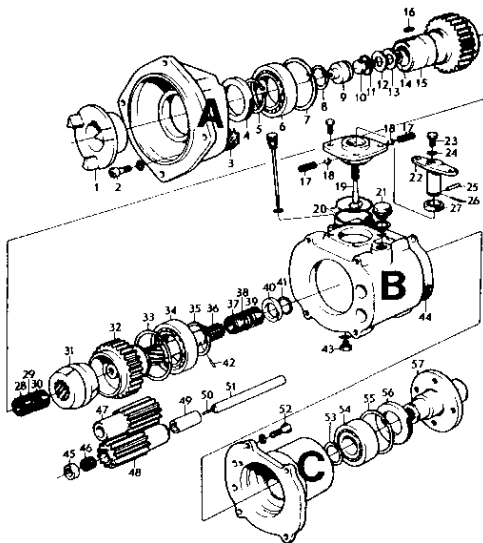

Fig. 1. Reverse gear type MS, without reduction gear
2. Drain the oil in the reverse gear by unscrewing the oil drain plug (see 43, Fig. 1). Unscrew the oil dipstick and the oil filler plug. NOTE! The earlier reverse gears have a copper gasket. This must be scrapped and replaced by an aluminium one.
3. Remove the four bolts securing the control mechanism and raise the cover so much that your fingers can grip the slide cone (19). Then lift up the entire mechanism.
4. Place the reverse gear upright with the engine-connection side facing downwards. Remove the four bolts (52) and lift off the rear housing. NOTE! Take care of the shims on the rear housing on the MSB-reverse gear. If the reverse gear is fitted with a reduction gear, remove the reduction gear instead. Remove the gasket (44). Two shaft ends can be seen where the rear housing (or reduction gear) joins with the intermediate housing. Place a piece of tape or similar over these to prevent them from sliding out when the reverse gear is turned.
6. Remove the circlip (8) and pull out the sleeve (9) with the help of tool 884490. (Applies only to MS.)
2. Pull out the shaft (36, Fig. 1). NOTE! Keep an eye on the needle bearings (28 and 30) as well as the spacer washer (29).